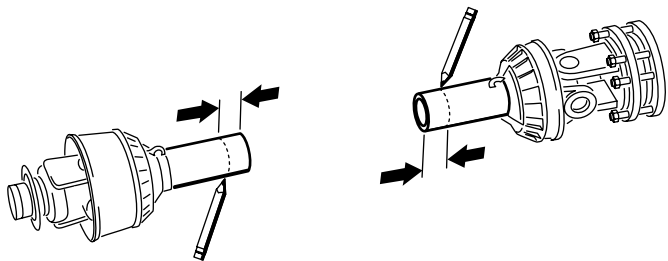
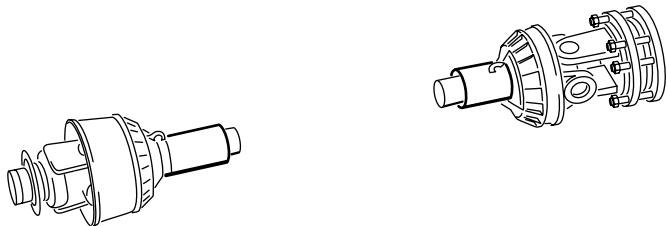

Figure 20
Figure 21
14. Using the dimensions determined in step 11, locate, mark and cut off just the safety shields to expose the tubes (Figure 20 and Figure 21).